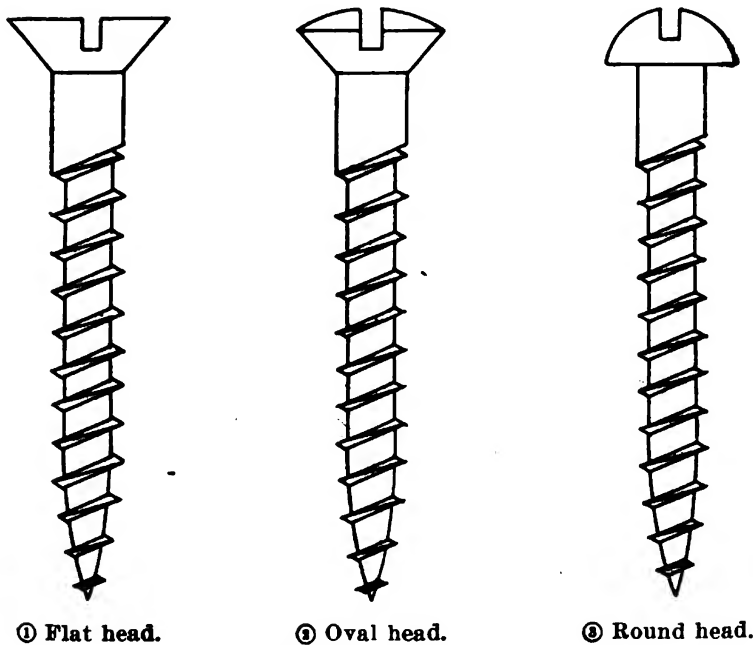

FIGURE 40.—Wood screws.
b. Three different types of wood screws are illustrated in figure 40.